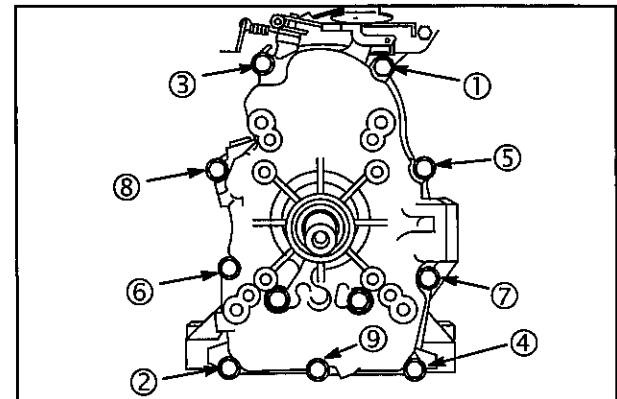

Fig. 9
4. Install crankcase cover or sump with new gasket. Torque screws in sequence, **Fig. 9**, to 150 in. lbs. (17 Nm).